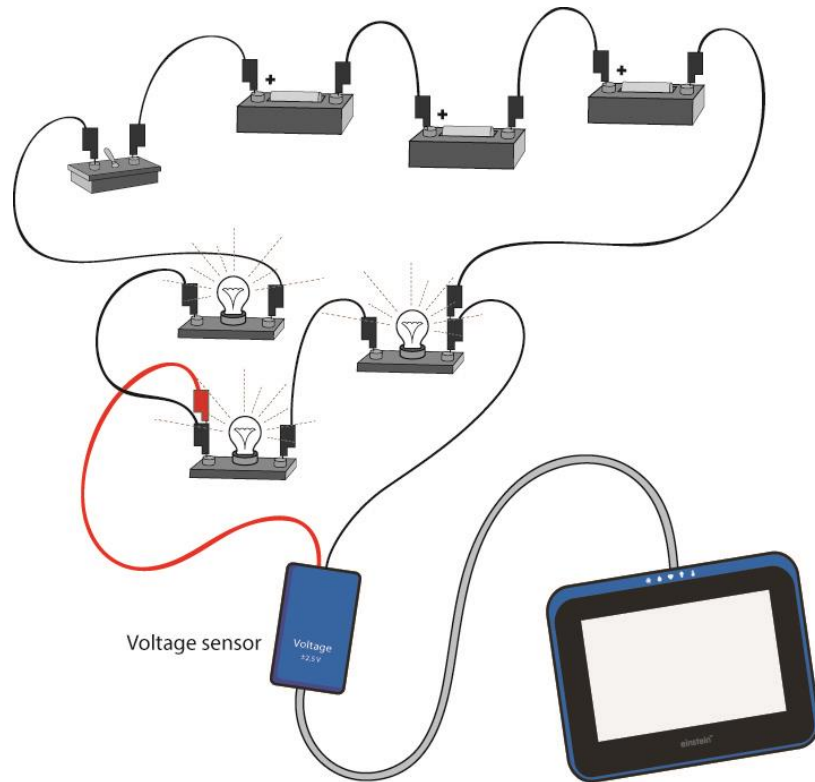

Figure 1
3. Assemble the equipment as shown in Figures 1 and 2. Notice that the negative lead of the voltage sensor is fixed to point A, but the positive lead will be connected to the various points in the circuit.